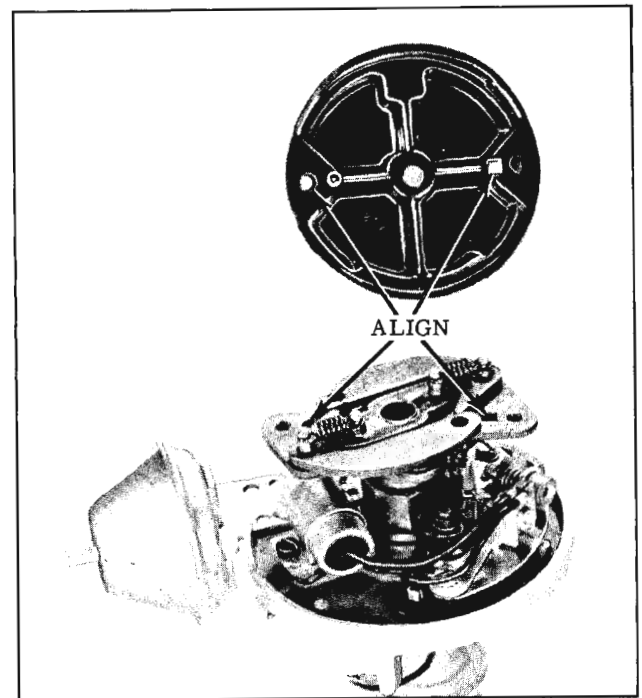

Fig. 14-123 Rotor Installation
1. Install rotor, aligning round and square lugs shown in Fig. 14-123.